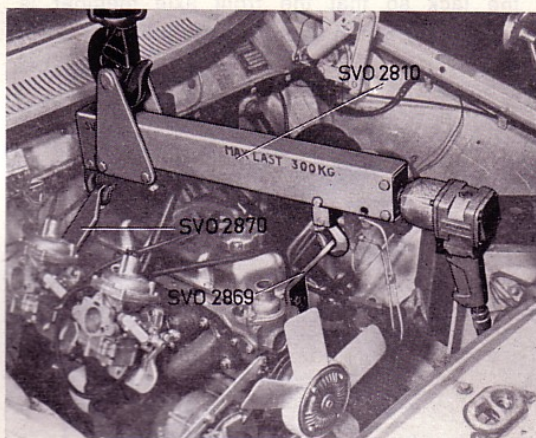
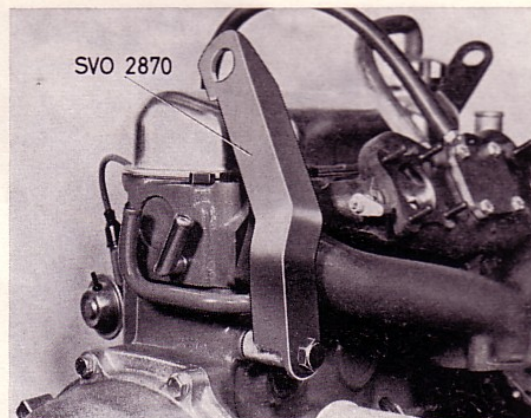
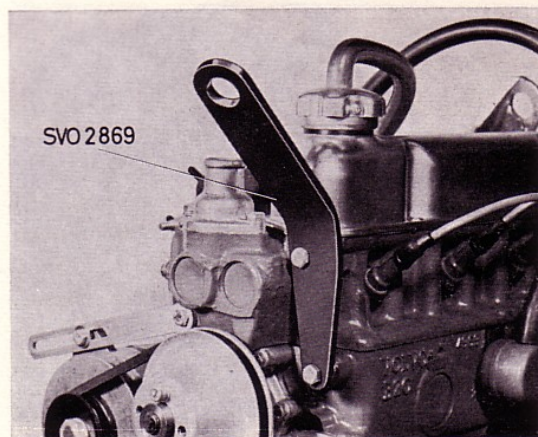

Fig. 13 Lifting out the engine
Fig. 14 Fitting lifting lug on engine rear end
Fig. 15. Fitting lifting lug on engine front end
20. Fit lifting lug SVO 2870 as shown in Fig. 14. and lifting lug SVO 2869 according to Fig. 15. The lifting lug is attached by 2 bolts 3/8" UNC-1" - resp. 1 1/4". Fit on lifting tool SVO 2810 according to Fig. 13 and lift out the engine.
1. Fit on the lifting lugs and beam according to Figs. 14, 15 and 13.
9. Adjust the clutch play according to Part 4 (41) "Adjusting the clutch pedal play".